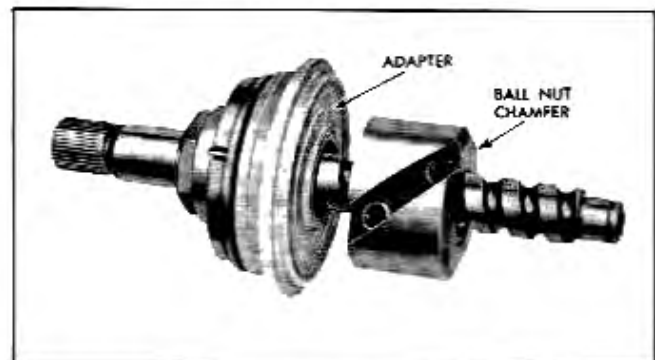

Fig. 9-52 Steering Worm, Ball Nut and Adapter Assembly
2. Assemble adapter to worm, being careful not to damage seal when passing over worm groove. Slide ball nut over worm with chamfered end away from adapter (Fig. 9-52).